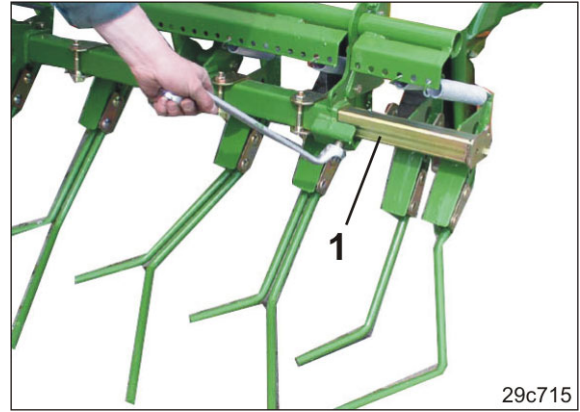

Fig. 161
10. Insert the outside harrow element (Fig. 161/1) to transport width (3.0 m).